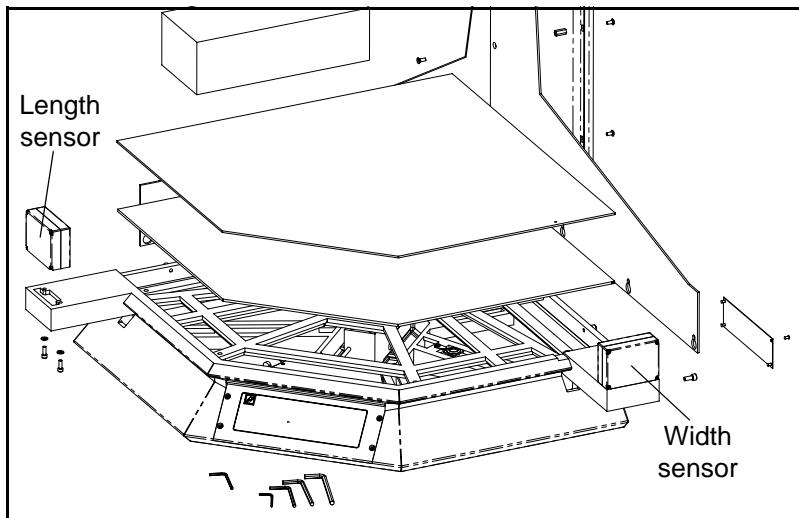

Figure 7
1. Place the width sensor, labeled “Right,” on the right, front corner of the base (see Figure 7). You will need to push the side panel out slightly to place the sensor in the correct position. If you tightened the front-most screw, you need to loosen it.